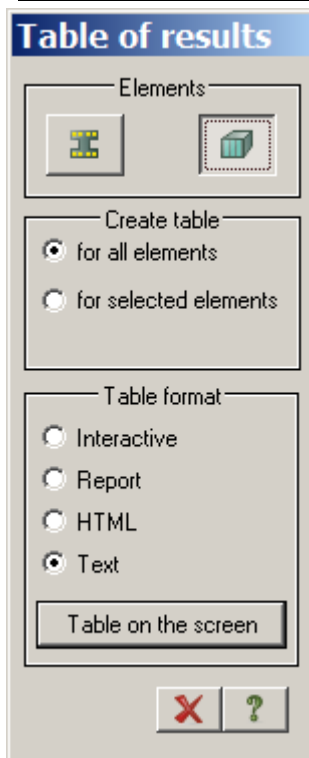

Figure 4.38 **Tables of analysis results** dialog box
- ⇒ In the **Tables of analysis results** dialog box (see Fig.4.38), click the **Plates** option in the **Elements** area. The following data is mentioned by default: option **For all elements** in the **Create table** area and **Text** option in the **Table format** area.